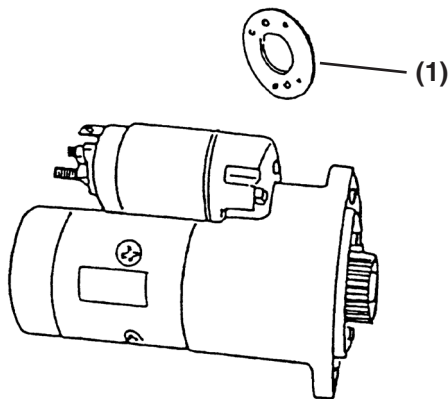

Figure 11-34
- If the measured L dimension is outside the standard range, adjust the dust covers to obtain the standard range. Dust covers **(Figure 11-34, (1))** are available in 0.020 in (0.5 mm) and 0.031 in (0.8 mm) thicknesses.